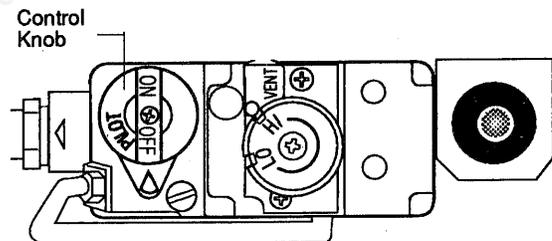
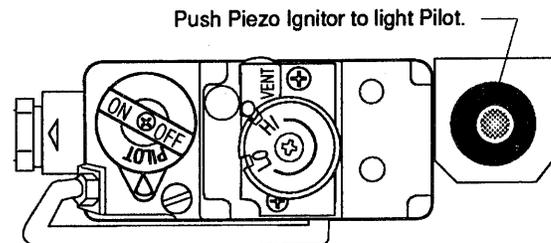
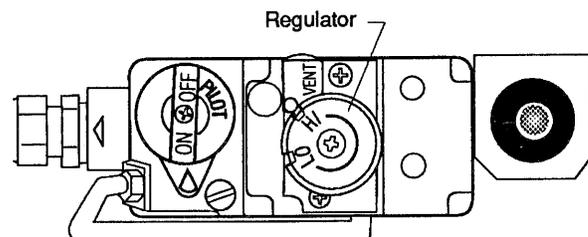

Figure 29. Control Valve OFF.
Figure 30. Control Valve in Pilot position.
Figure 31. Control Valve in ON position.
3. Push in gas control knob slightly and turn clockwise  to "OFF." See Fig. 29.
4. Wait five (5) minutes to clear out any gas. If you then smell gas, STOP! Follow "B" in the safety information above on this panel. If you don't smell gas, go to the next step.
5. Turn knob on gas control counter-clockwise  to "PILOT." See Fig. 30.
6. Push in control knob all the way and hold in. Immediately light the pilot by pushing the red Ignitor button. Continue to hold the control knob in for about one (1) minute after the pilot is lit. Release knob and it will pop back up. Pilot should remain lit. If it goes out, repeat steps 3 through 5.
7. Turn gas control knob counter-clockwise  to "ON." See Fig. 31.